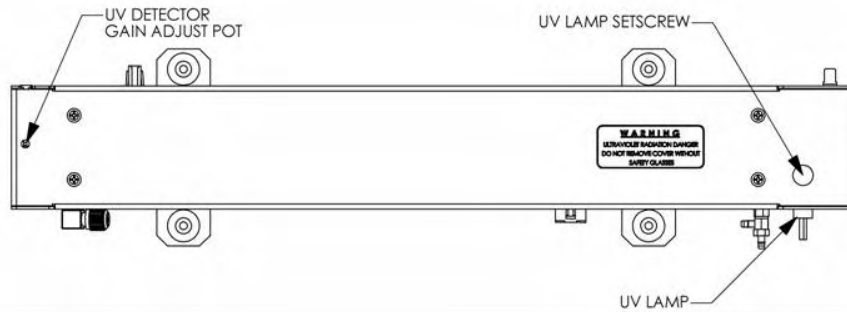

Figure 10-5: Photometer Assembly – Lamp Adjustment / Installation
4. Locate the **UV DETECTOR GAIN ADJUST POT** on the photometer assembly (see Figure 10-5).
- Locate the UV lamp at the front of the optical bench assembly (see Figure 10-5).
- Turn the UV detector gain adjustment pot (See Figure 10-5) clockwise to its minimum value. The pot may click softly when the limit is reached.